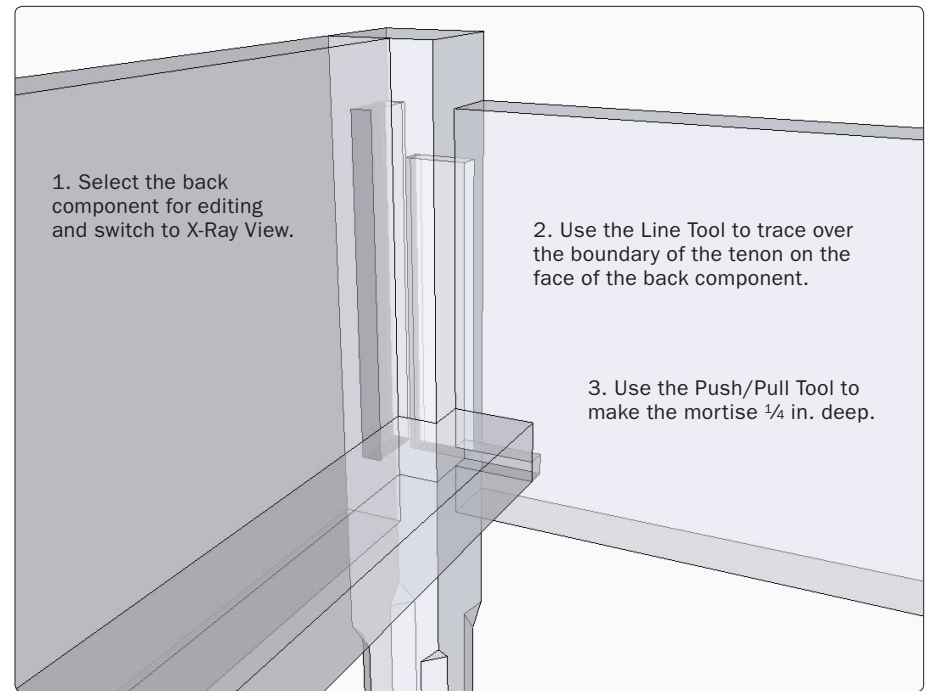
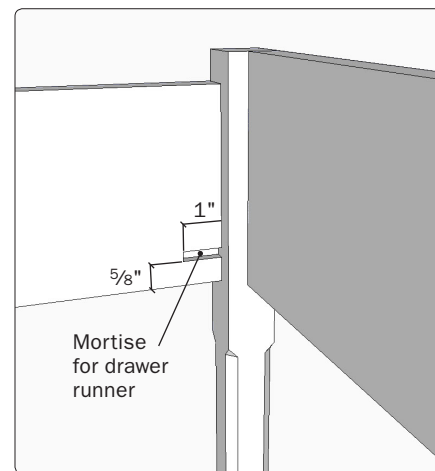

Figure 23. Make the first mortise for the drawer runner.
Figure 24. The completed mortise in the back component.
Step 23 Use the runner tenon to create the corresponding mortises in the back and upper front stretcher, just as you did when you made the mortises in the legs. In the View Menu, set the face style to X-Ray View. Right-click on the back component and choose Edit Component from the pop-up menu. Use the Line Tool to trace over the rectangular boundary of the runner tenon as it intersects with the face of the back piece. Use the Orbit and Zoom tools as needed to get a clear view of the joint. Use the Push/Pull Tool to create the ¼-in.-deep mortise (Figure 23). Repeat this process to create the mortise in the upper front stretcher. Figures 24 and 25 show the completed mortises. Repeat the procedure to draw mortises at the opposite end of the back and upper front stretcher.